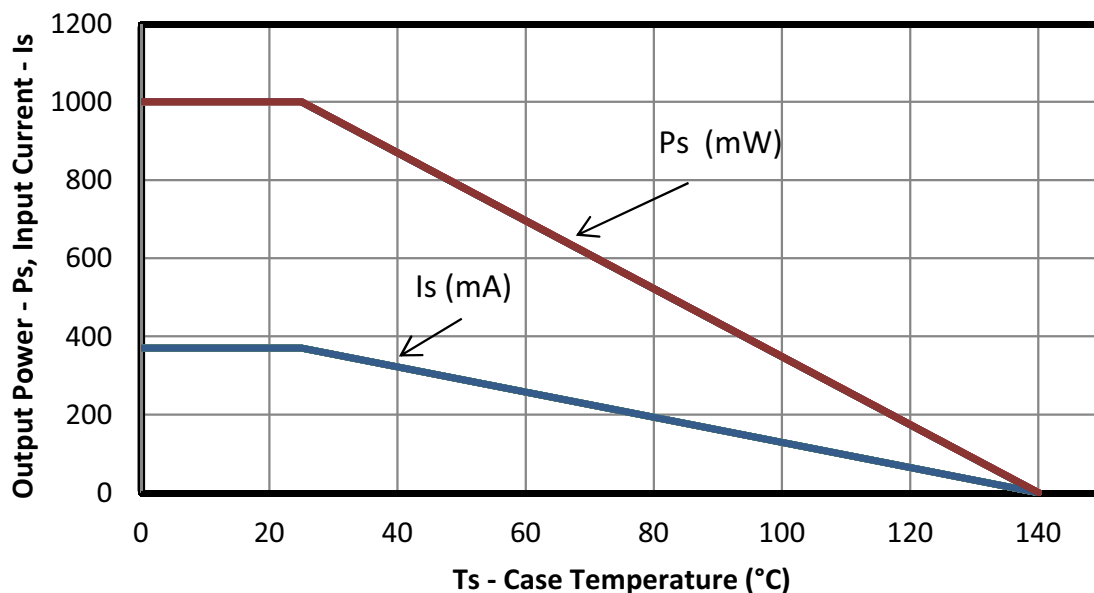

Figure 5. (SOIC-8) Thermal Derating Curve, Dependence of Safety Limiting Values with Case Temperature per DIN EN 60747-5-2 and VDE0884-10
*Note: Maximum value allowed in the event of a failure; also see the thermal derating curve in Figures 5, 6, 7, and 8.